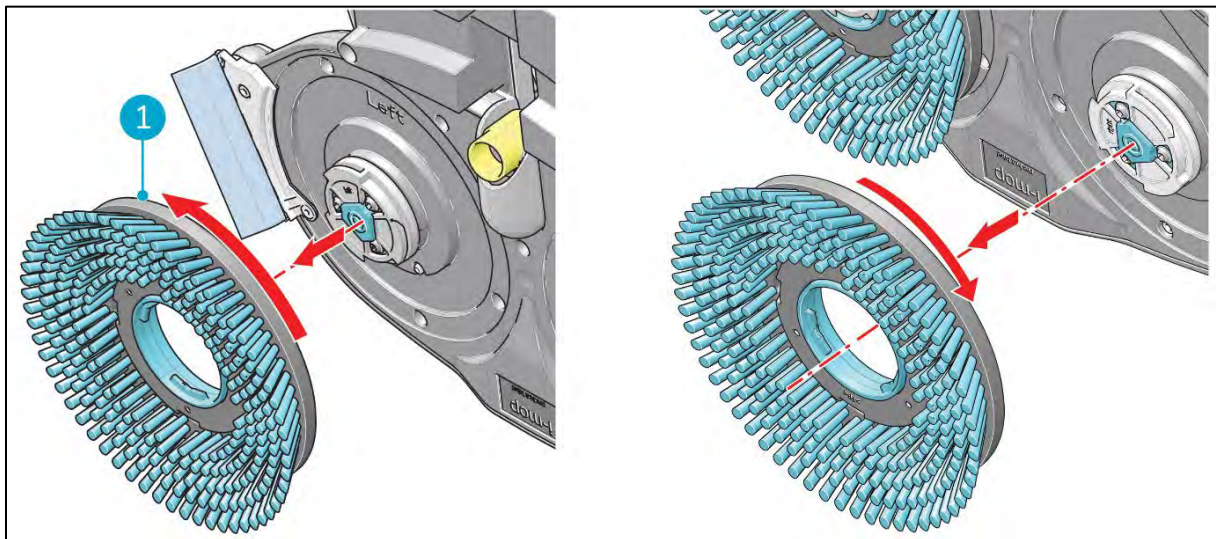

Figure 31
3. Using your other hand to turn the left brush (Figure 31, pos. 1) anticlockwise until you feel resistance or see the motor disk turning as well.